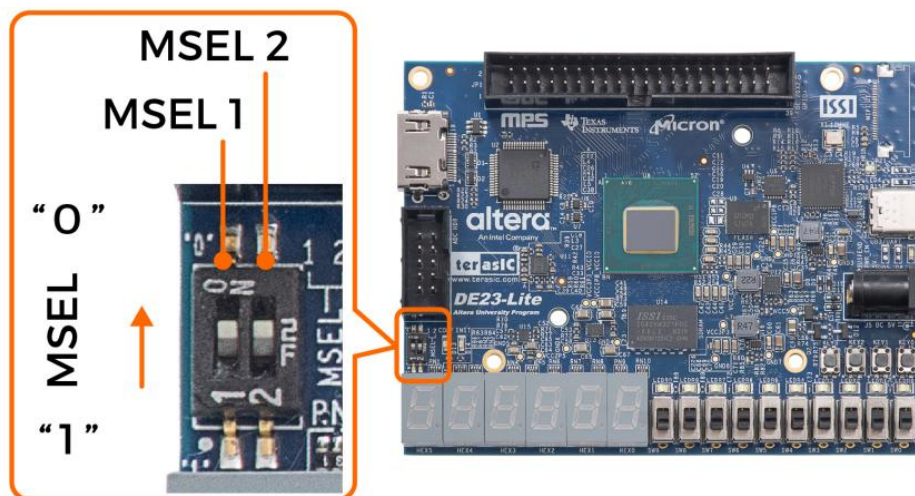

Figure 5-2 SW2 for FPGA Configuration Mode
4. Verify that the MSEL Settings Switch on DE23-Lite is set to AS mode (MSEL[2:1] = 2'b00) as shown in **Figure 5-2**.